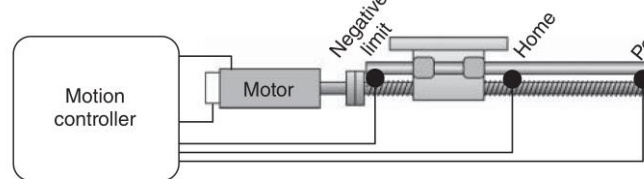

Figure 3
- 3) Motion controllers use counts (cts) to track position. The motor in Figure 3 has an encoder that produces 8000 cts/rev. The ball-screw advances 10 mm/rev. A motion application requires the carriage of the linear axis to travel 406 mm at 101 mm/s with an acceleration of 254 mm/s2. Calculate the following parameters for the carriage in the units shown: speed (cts/ms), distance (cts), acceleration (cts/ms2), and move time (constant velocity time) in ms.